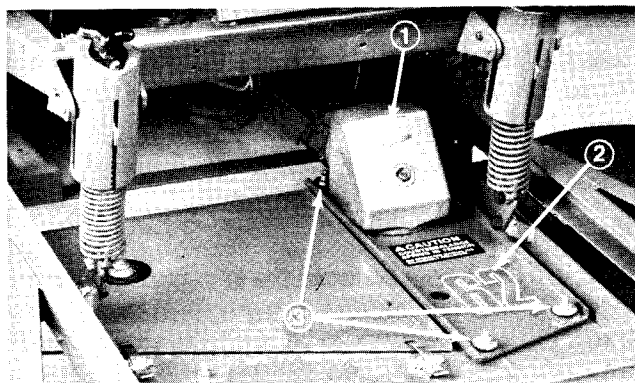
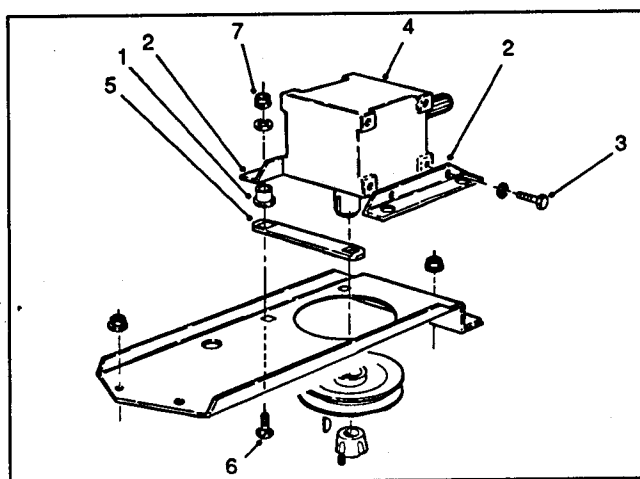

Figure 37
Figure 37A
4. Remove the four carriage bolts, washers and nuts securing the gearbox base to the top of the cutting unit (Fig. 37). Slide the gearbox and base forward until the P.T.O. shaft separates. Place the gearbox base assembly on a workbench.
**Aluminum Gearbox (Fig. 37)**
A. Remove the five (5) cap screws securing gearbox to base plate.
**Cast Iron Gearbox (Fig. 37A)**
B. Remove four (4) capscrews and lockwashers securing brackets to each side of gearbox.
A. Install four (4) isolation mounts into two (2) brackets. Use water or lubricant to ease installation. Install mounts from bottom of bracket.
D. Mount gearbox with brackets onto base plate. Insert four (4) carriage bolts up from bottom of base plate and install flatwasher and nut on each bolt to secure gearbox to base plate. Tighten nuts to 20 - 26 ft-lb.